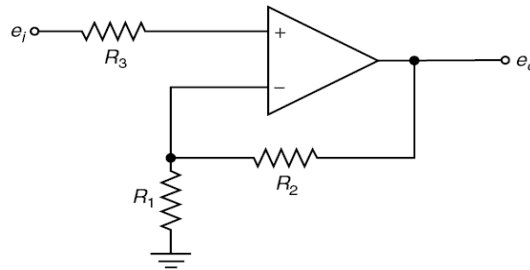

Figure 5[b]
- [b]** Figure 5[b] shows an amplifier circuit.